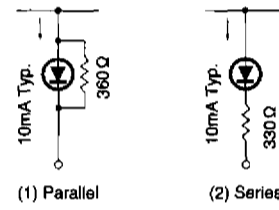

Fig. 3
The response time (attack and release time) can be changed by varying the values of C_1 and C_2 . C_2 is a coupling capacitor, and the potentiometer VR varies the input level. Input the voltage level that you desire for the center point, and adjust the potentiometer so that the third LED (V_{C3}) lights. To reduce the LED current, connect a resistor either in parallel (Fig. 3 (1)) or in series (Fig. 3 (2)) with the LED. If a resistor is connected in series with the LED, the LED current will change if the supply voltage fluctuates.